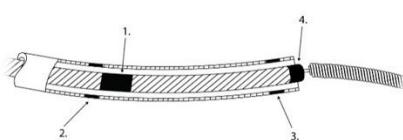

Figure 2 Microcatheter and Avenir Coil system pusher distal tip alignment
27. Advance the coil into the desired position until the proximal end of pusher 3cm marker is adjacent to the distal end of the microcatheter proximal marker, forming a "T", see Figure 2. This alignment positions the proximal end of the coil just outside the microcatheter. To minimize the potential risk of aneurysm or vessel rupture, DO NOT advance the delivery system so that the proximal end of the pusher 3-cm marker advances past the distal end of microcatheter proximal marker.